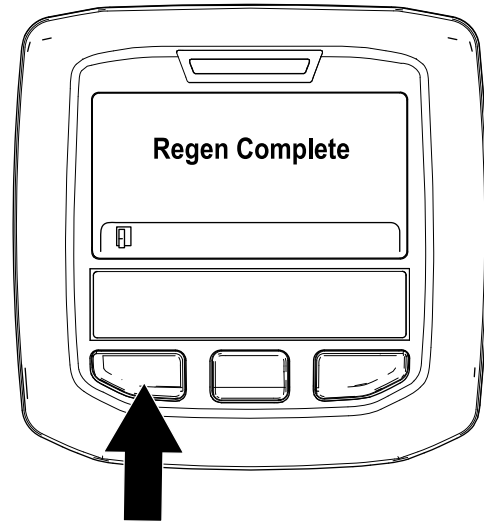

Figure 48
9. The parked regeneration is complete when the “Regen Complete” message displays in the InfoCenter. Press the left button to exit to the home screen (Figure 48).